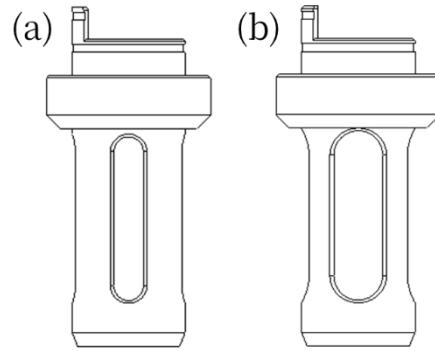

Figure 11 (a) 15 mL Centrifuge tube adapter (b) 50 mL Centrifuge tube adapter
- If a 15 mL or 50 mL centrifuge tube is to be used, the centrifuge tube adapter is required (Figure 11).